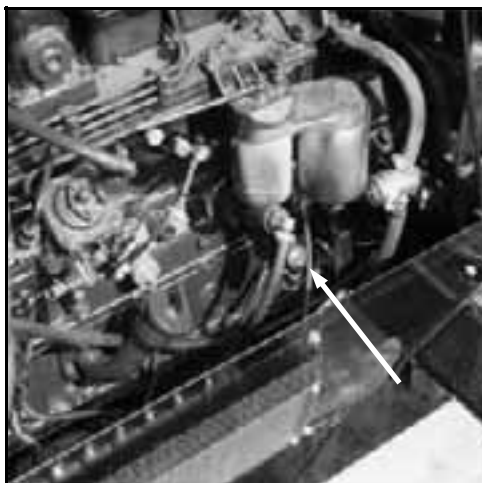

FIG 7.11
**PRIMING** - If the fuel system should happen to run dry and lose its prime, there is a priming bulb located on the left side of the engine for use in filling the engine fuel filters (fig. 7.11).